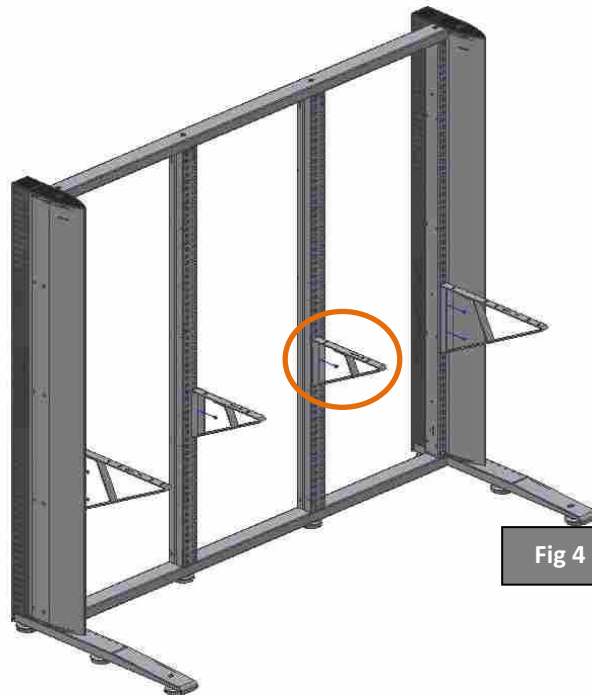

Fig 4
STEP 2 – Mount the **safety screws (M6x10 ISO7380)** of the **brackets** to prevent them coming out of the trapezoid (Fig. 4 and 5).